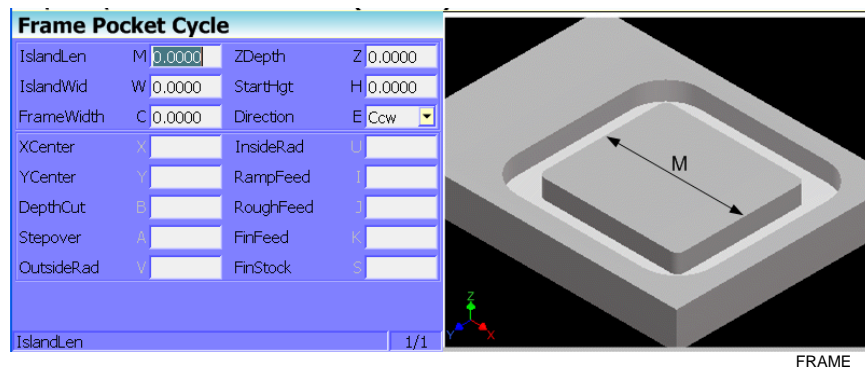

Figure 4-20, Frame Pocket Cycle Graphic Menu
2. Highlight **Frame** and press **ENTER** to display the Frame Pocket Cycle Graphic Menu. Refer to **Figure 4-20**.